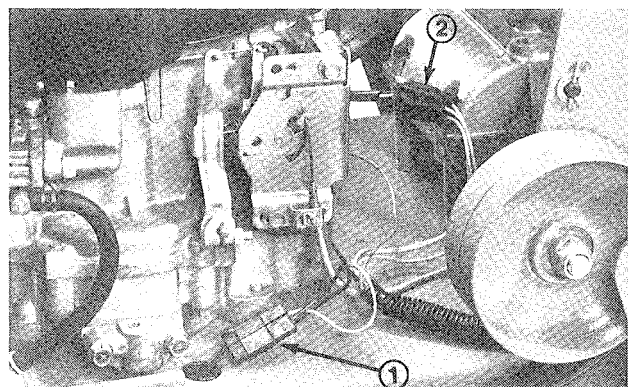

Figure 6
1. Secure clutch and engine in–line wire connectors (Fig. 6).